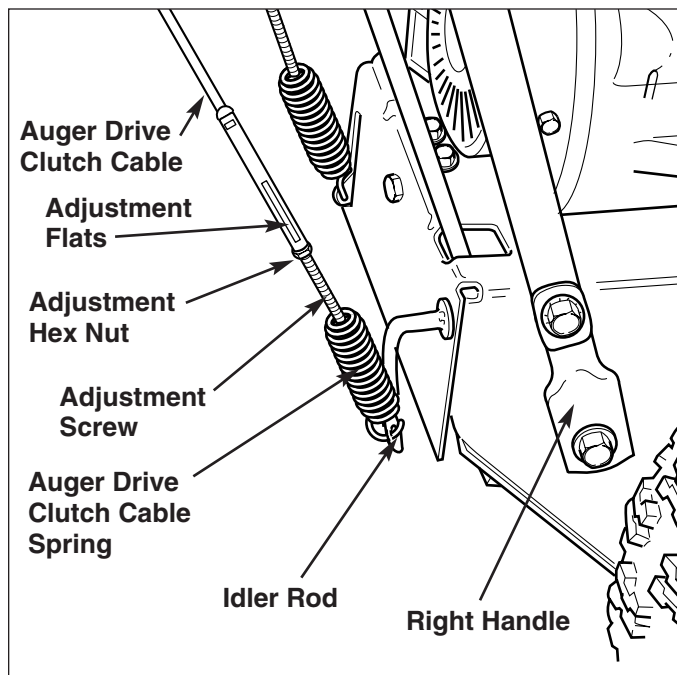

Figure 23. Auger Drive Clutch Cable Adjustment
1. Loosen the nut (G, Figure 23) which holds the pinion gear bracket in the slotted hole.
1. Loosen adjustment hex nut (Figure 23) by holding the adjusting flats and turning adjustment hex nut .